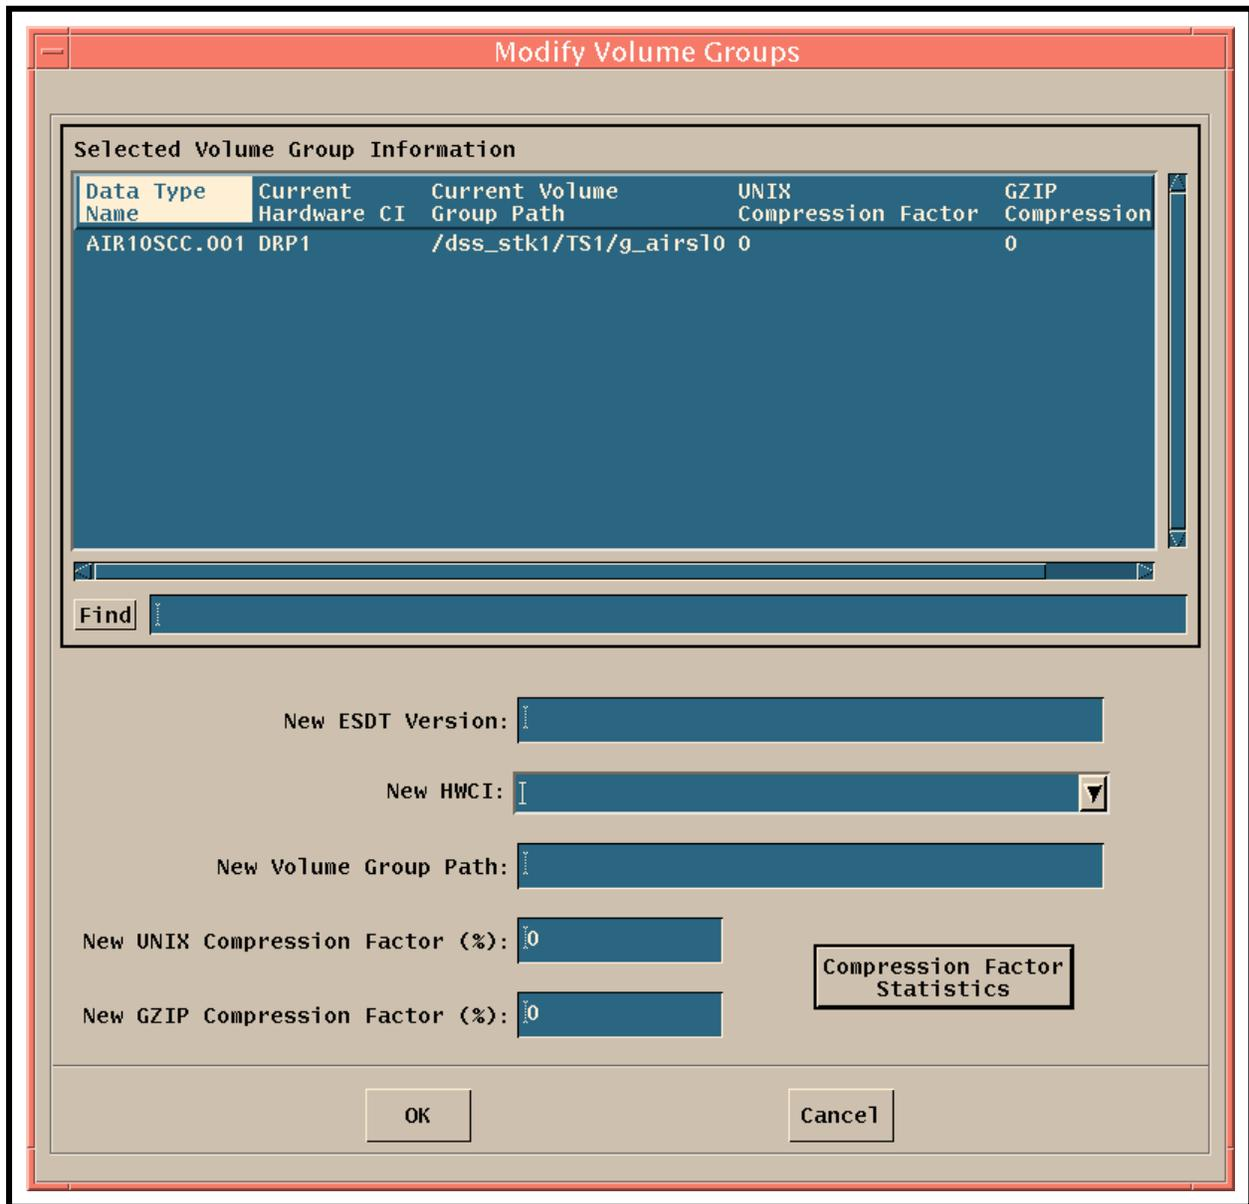

Figure 17. Modify Volume Groups GUI
- The Modify Volume Groups GUI as shown in Figure 17.